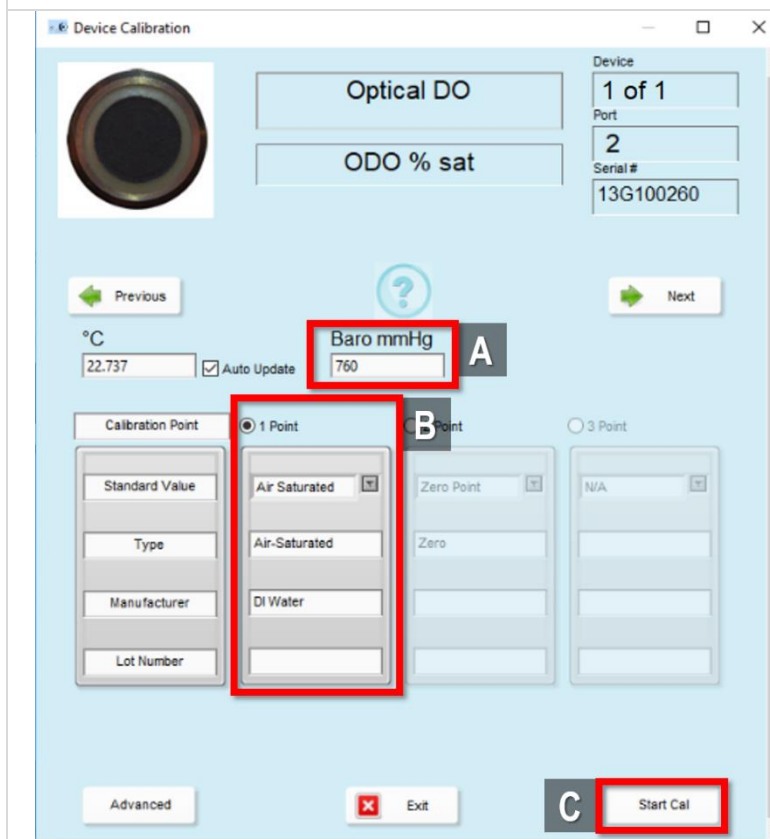

Figure 125. Parameters for a 1-Point Calibration for DO
**STEP 3** | Input the following information in the **Device Calibration** window for a 1-point calibration process (A and B in Figure 125):
Ensure the DI Water has had at least 15 minutes to reach equilibrium in the calibration cup. Click **"Start Cal"** (C in Figure 125).